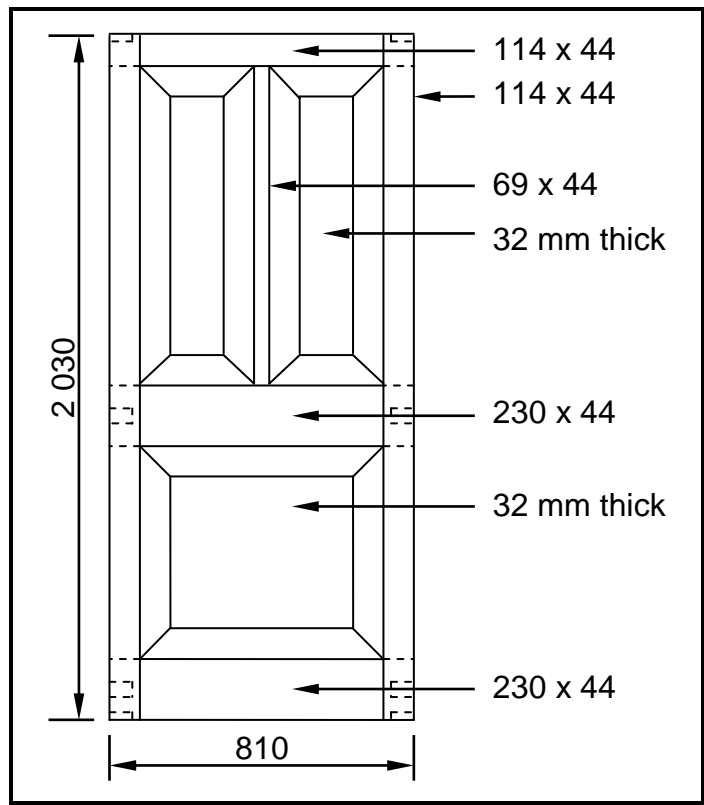

FIGURE 4.1
4.1 FIGURE 4.1 below shows the front view of a three-panel door. Study the drawing and complete the incomplete cutting list below. Write only the answer next to the question number (4.1.1–4.1.7) in the ANSWER BOOK.